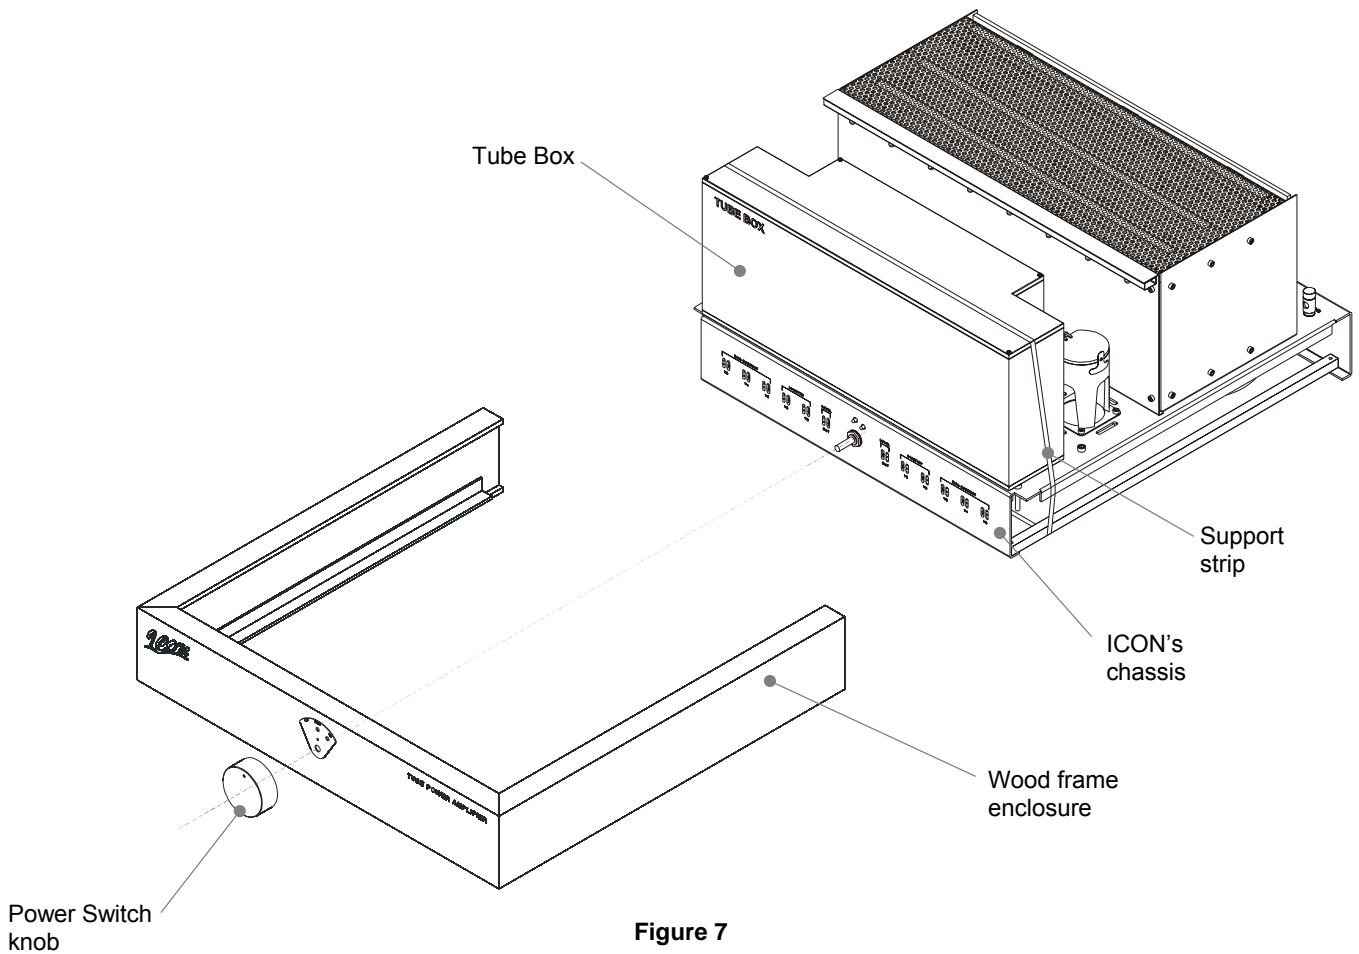

Figure 7
1. Using an appropriate screwdriver, remove screw from the bottom of Power Switch Knob and pull it from the Front Panel. Refer to figure 7.